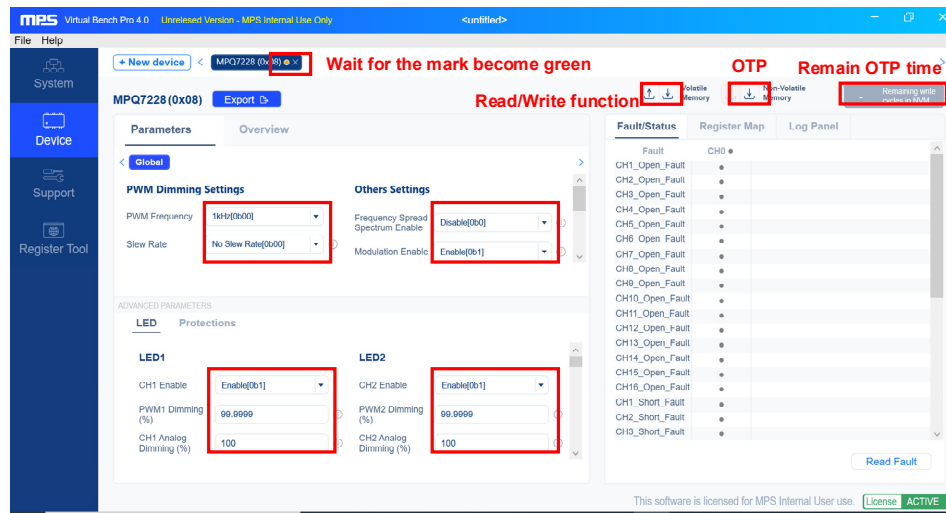

Figure 9: OTP Memory in Virtual Bench
- After changing the register value, click the “Non-Volatile Memory” button to start the OTP memory, then reset the MPQ7228 to validate the OTP memory. If the remaining OTP memory time under “Remaining write cycles in NVM” is 0, then this means that the device has used all available OTP write cycles (see Figure 9 on page 9).